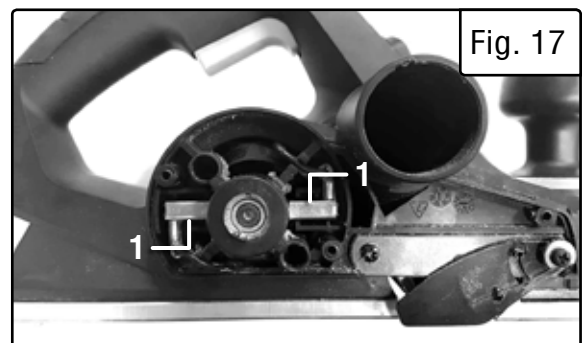

Fig. 17
2. Carefully take out the two carbon brushes (Fig. 17 - 1) using pliers and replace with new brushes.